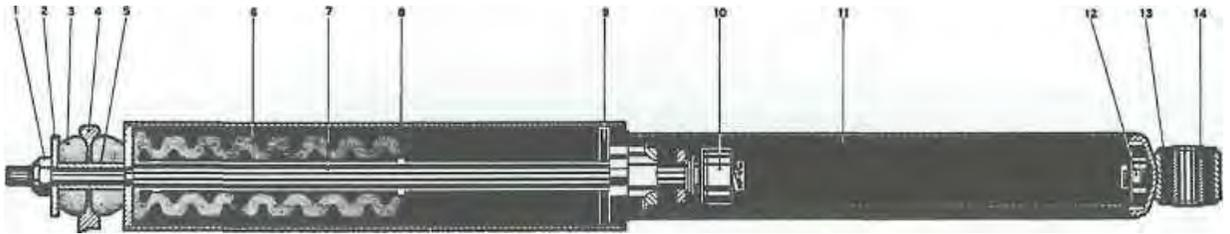

Fig. 175
1. Make sure that the stop disc (Fig. 175, Point 9) grooves face the Shockabsorber plunger since otherwise the hydraulic Shockabsorber fluid will be syphoned out.